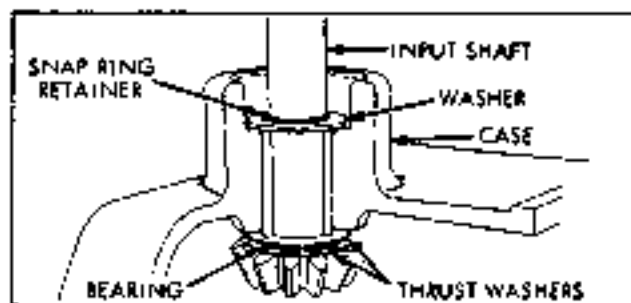

Figure 27
- (a) Install thrust washers and bearing on input shaft. Note sequence, Fig 27.